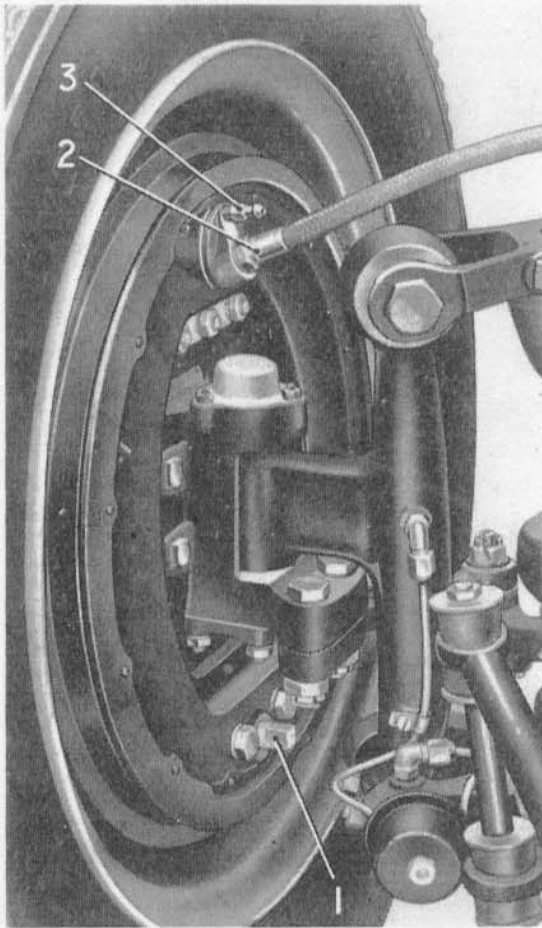
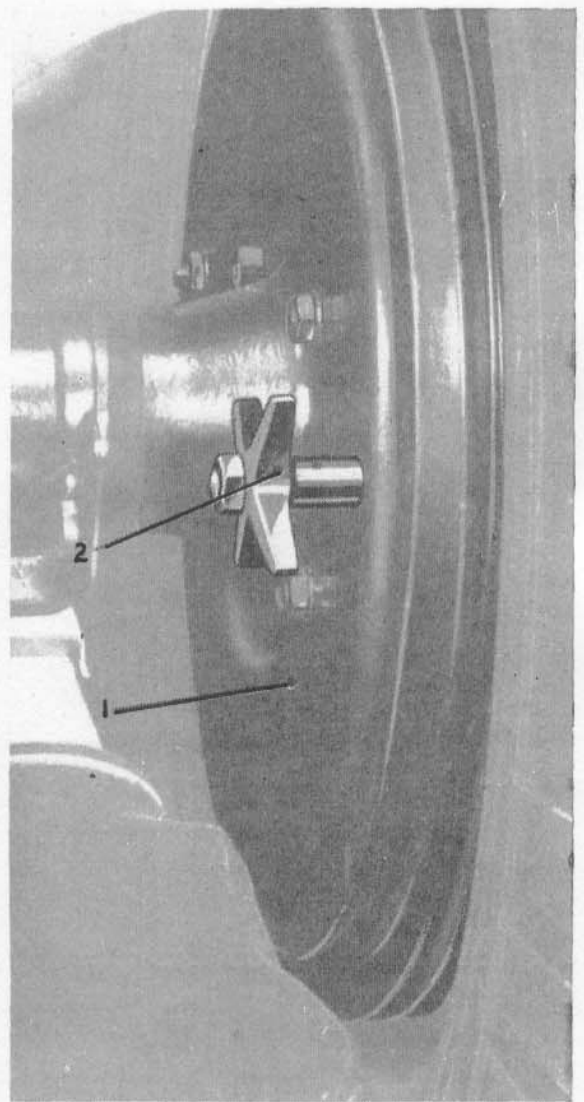
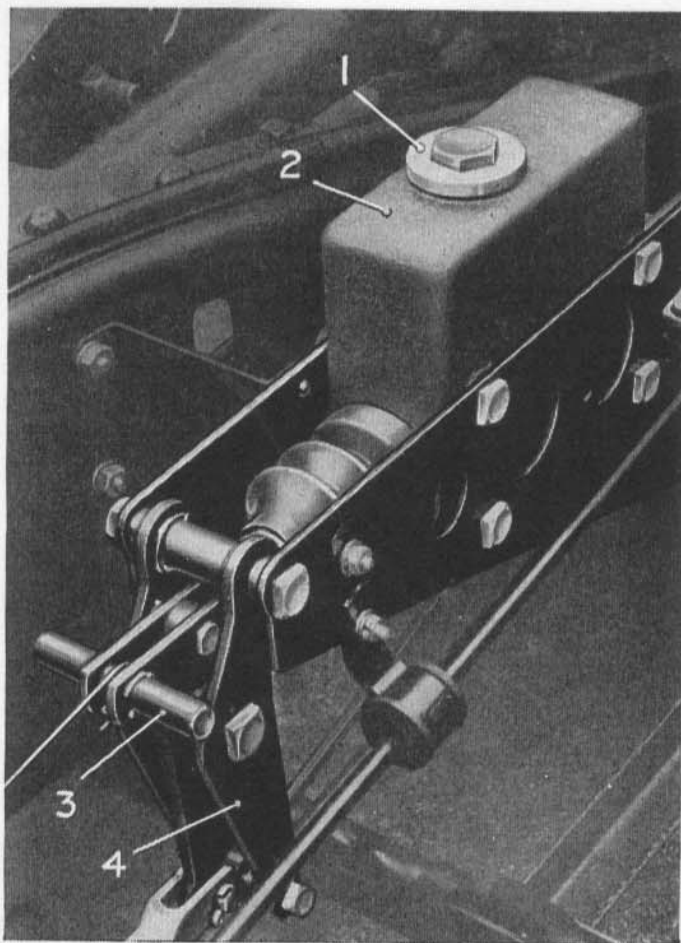

Fig. 16.—FRONT BRAKE ADJUSTMENT.
Fig. 17.—REAR BRAKE ADJUSTMENT.
Fig. 18.—THE HYDRAULIC MASTER CYLINDER AND RESERVOIR.
The method of adjustment is the same for both front and rear brakes, with the exception that a hand wheel is provided on the rear brake adjusters, while a  $\frac{1}{4}$ " B.S.F. open-ended spanner must be used on the squared end of the front brake adjusters. The rear adjusters (2, Fig. 17) are located forward of the axle tubes, and the front adjusters (1, Fig. 16) directly below the steering pivot pins.
1. Attach a clean rubber drain tube to one front brake bleeder screw (3, Fig. 16), and immerse the other end in a clean glass jar in which there is sufficient hydraulic brake fluid to submerge the end of the tube.
2. Release the bleeder screw (3) half to one turn.
3. Remove the filler plug (1, Fig. 18) and fill the reservoir integral with the master cylinder, with the recommended fluid. (See page 28.)
4. Push the joint forward until the extended pin (3) abuts against the master cylinder support brackets (4).